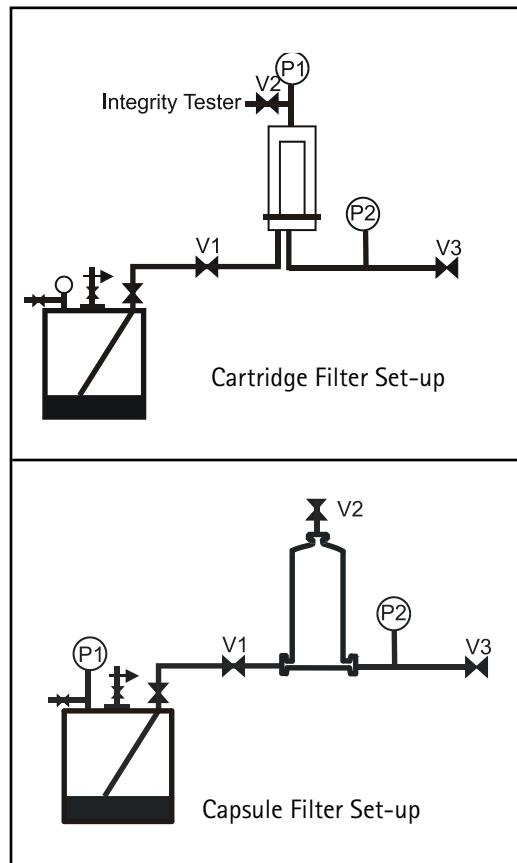

Figure 1. Typical setup for wetting with pressure.
1. Set up the filtration system as shown in Figure 1 and close all valves (V1, V2 and V3).